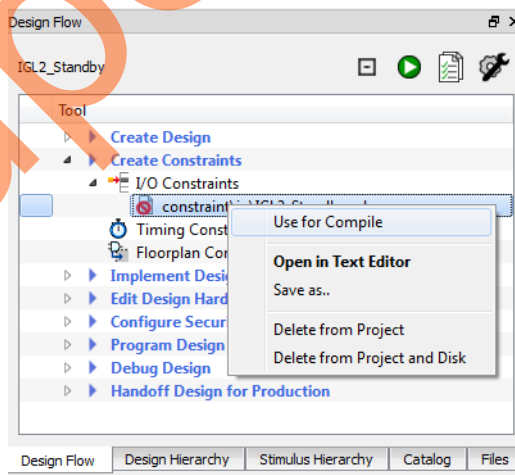

Figure 18 • Selecting I/O PDC Constraint File in Design Flow Tab
1. Expand **Create Constraints > I/O Constraints** in the Libero SoC **Design Flow** tab. Right-click **IGL2_Standby.pdc** under **Constraints**. Then, right-click and select **Use for Compile**, as shown in Figure 18. A green check mark appears next to the constraint file indicating that the file will be used.